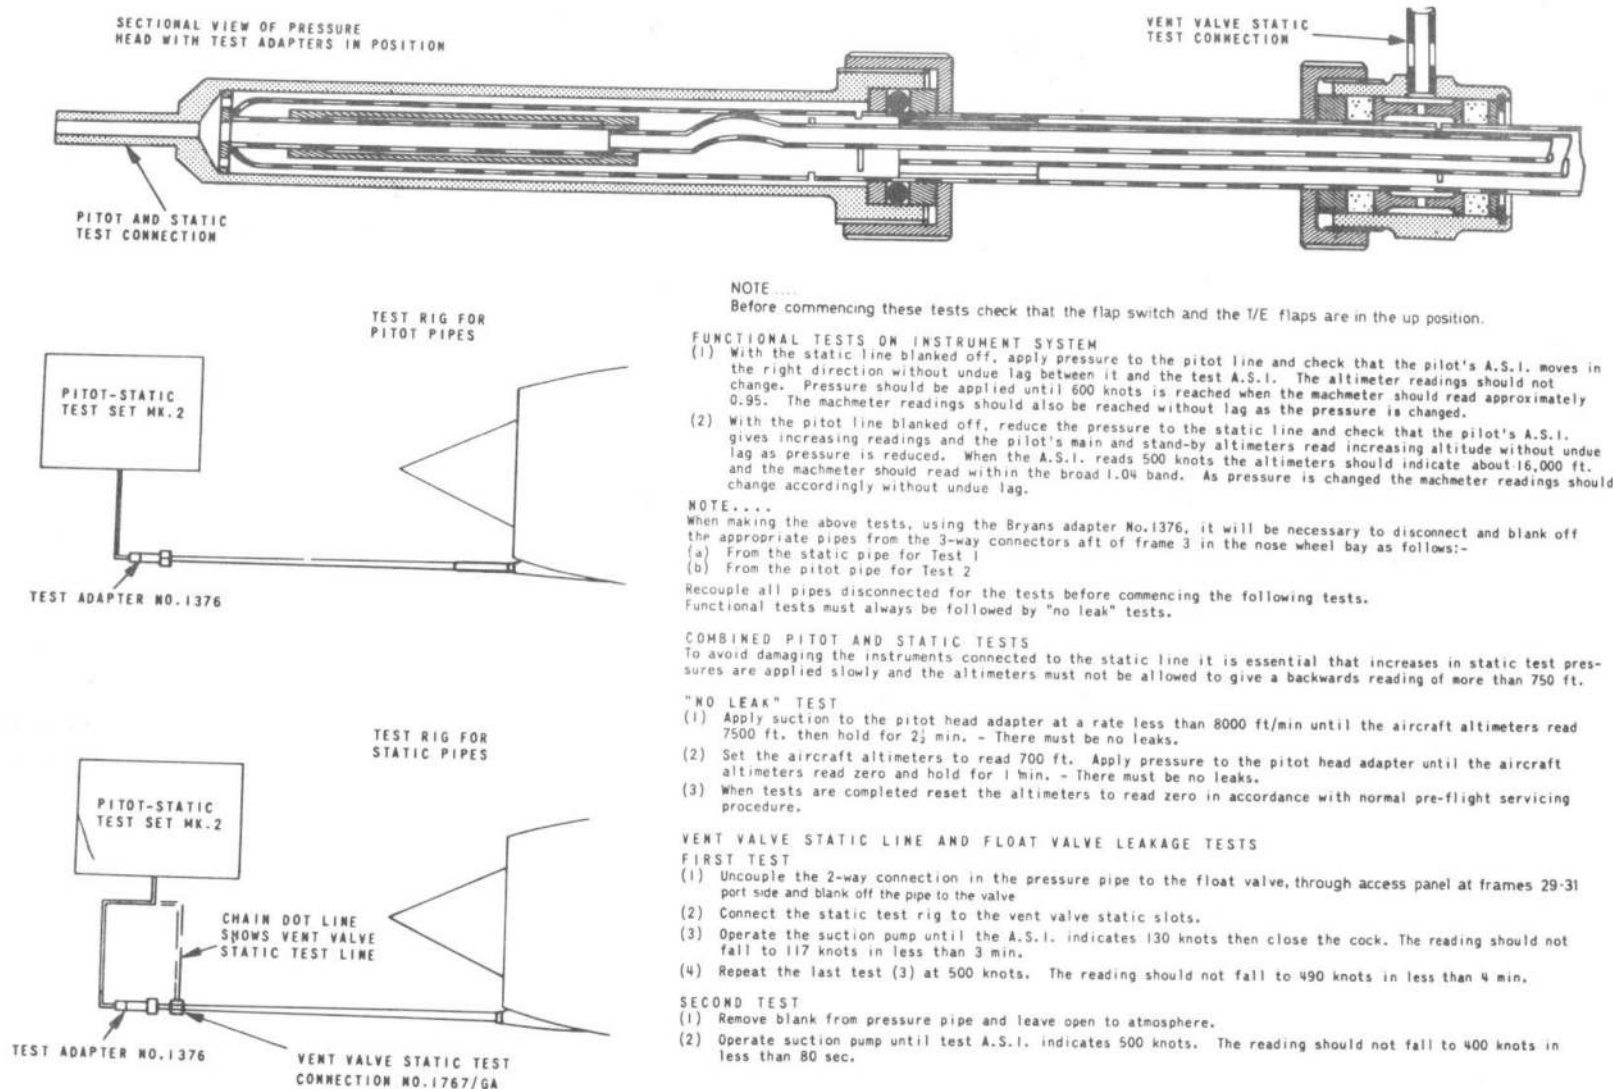

FIG. 4. PITOT AND STATIC SYSTEM TESTS
19. The pitot and static pipelines, unions, connections and items associated with the system should be checked periodically for security and freedom from damage. In addition to the normal operational checks, the tests given on fig. 4 are to be made at the intervals stated in A.P.101B-1001-4, or whenever any